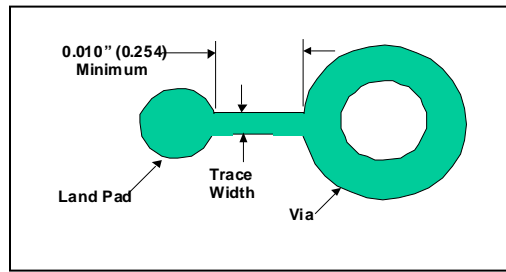

Figure 4. Land pad to via
- Vias connected to the CBGA land pads, should have a minimum width connecting trace, with a minimum length of 0.010 inches (0.254 mm), see Figure 4.